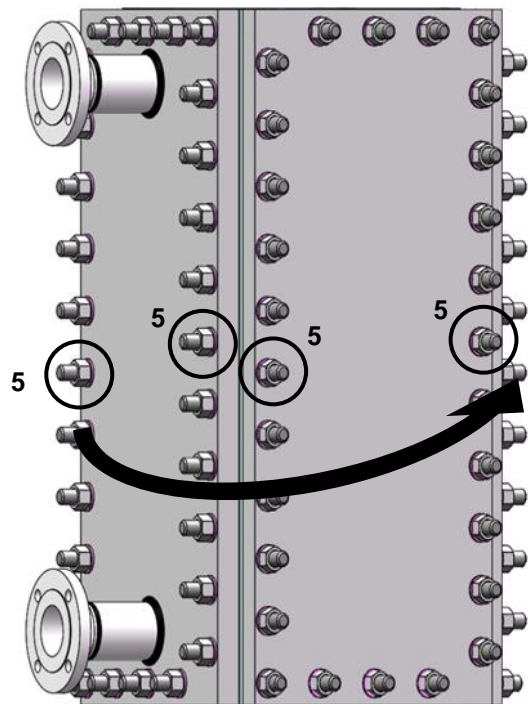

Figure 16
- Grease tips of threaded rods 5 (figure 16).